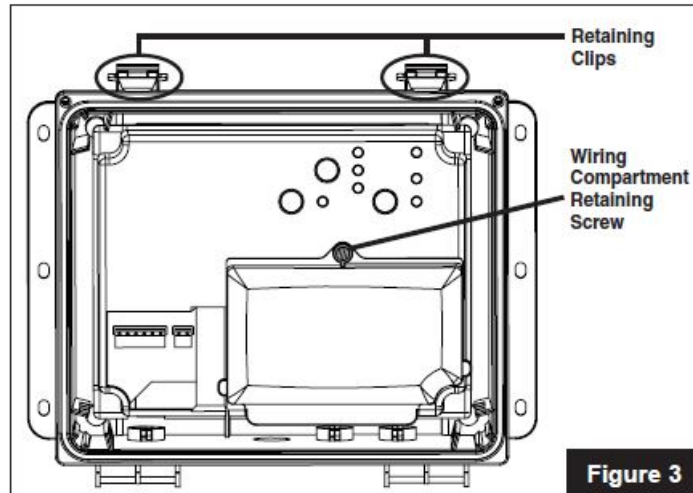

Figure 3
1. Open the enclosure by unfastening the two Retaining Clips (Figure 3) at the top of the enclosure.
2. Remove the Retaining Screw (Figure 3) securing the high voltage wiring compartment cover and remove the high voltage cover.